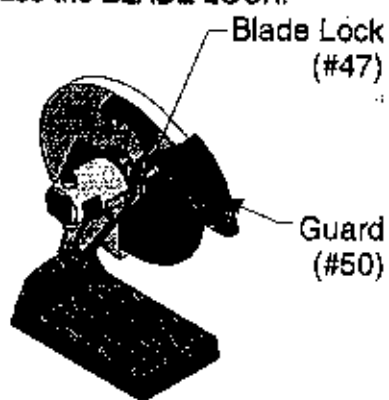

Figure 1 -- Blade Lock and Guard
- Step 3: Push in BLADE LOCK (#47), as shown in Figure 1, and slowly turn Wheel until it "clicks" into place. Do not release the BLADE LOCK.